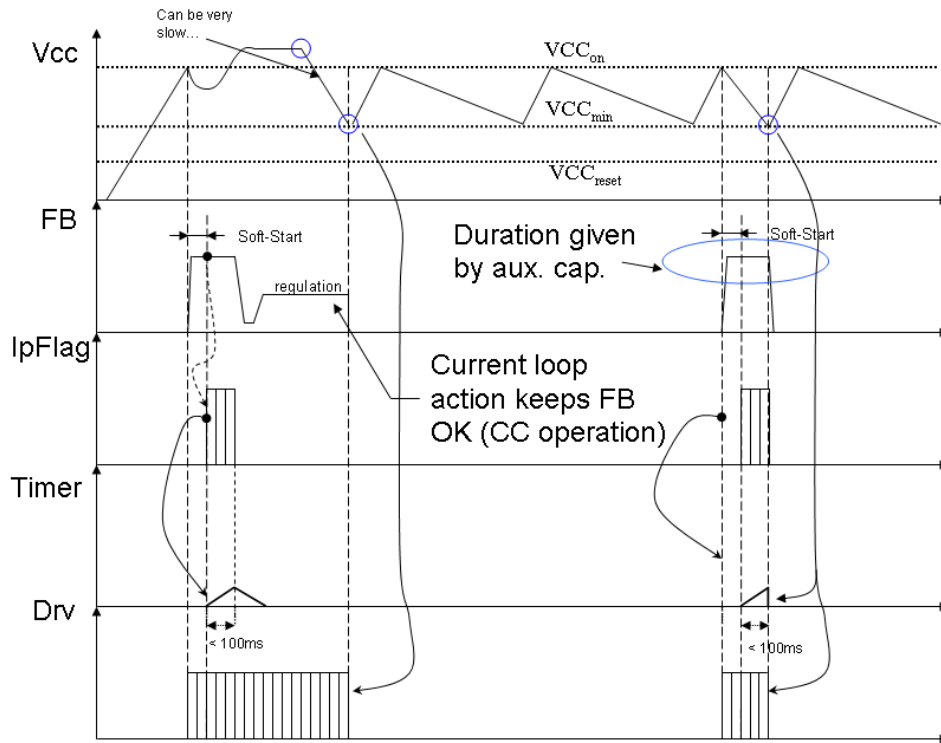

Figure 20. First Fault Mode Case, the Auxiliary Winding Collapses but Feedback is Still There
1. The converter regulates but the auxiliary winding collapses: this is a typical situation linked to the usage of a constant-current / constant-voltage (CC-CV) type of controller. If the output current increases, the voltage feedback loop gives up and the current loop takes over. It means that V_{OUT} goes low but the feedback loop is still closed because of the output current monitoring. Therefore, seen from the primary side, there is no fault. However, there are numerous charger applications where the output voltage shall not go below a certain limit, even if the current is controlled. To cope with this situation, the controller features a precise under-voltage lockout comparator biased to a V_{CCmin} level. When this level is crossed, whatever the other pin conditions, pulses are stopped and the controller enters the safe hiccup mode, trying to re-start. Figure 20 shows how the converter will behave in this